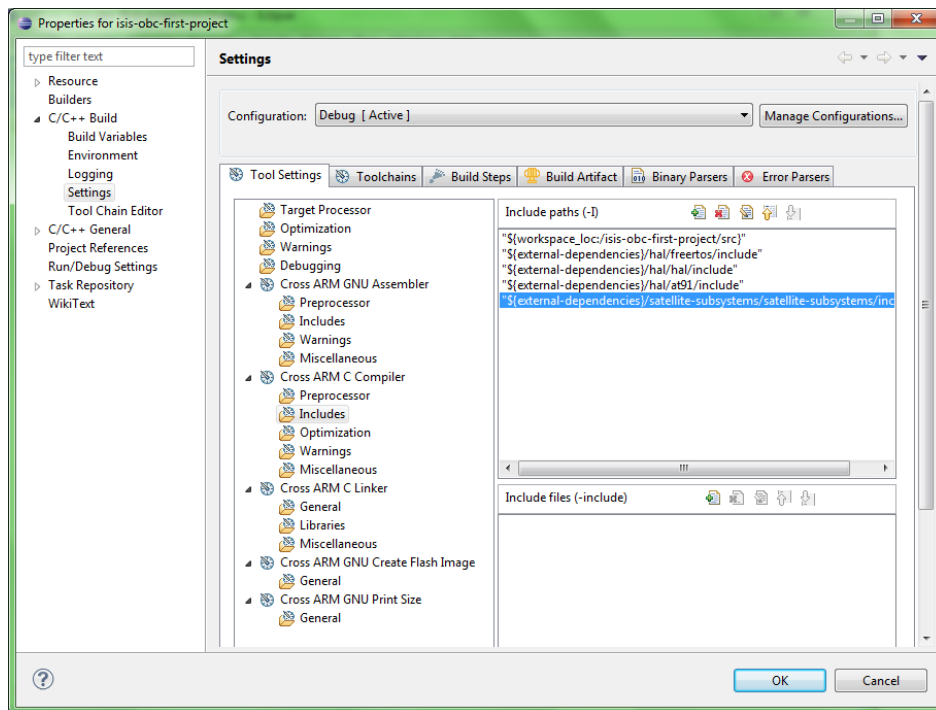

Figure 17: Adding the library include path
2. Add the include path to the library: Open Eclipse, right click the first project and open project properties. Navigate to *C/C++ Build > Settings*. Under Tool Settings choose *Cross ARM C Compiler > Includes*. Add the path to the *include* folder of the library. For satellite subsystems this is "`${external-dependencies}/satellite-subsystems/satellite-subsystems/include`". See Figure 17.